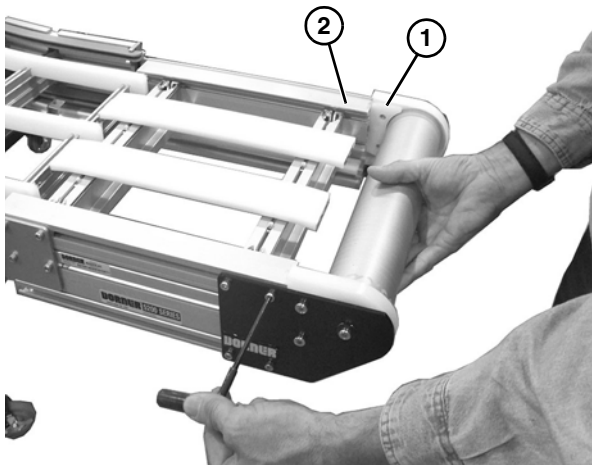

Figure 46
When reinstalling the idler spindle tail assembly, the idler terminal assembly (**Figure 46, item 1**) should mate flush with the conveyor frame (**Figure 46, item 2**).